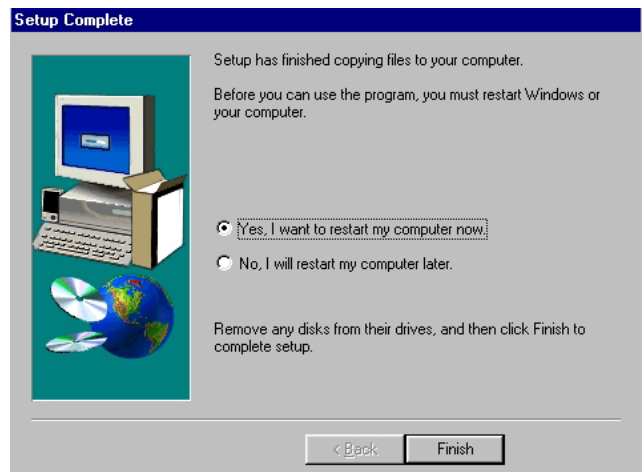

Figure 3-21
11. Follow all on screen instructions using the default directory for installation. When prompted re-boot the aligner. (Figure 3-21)